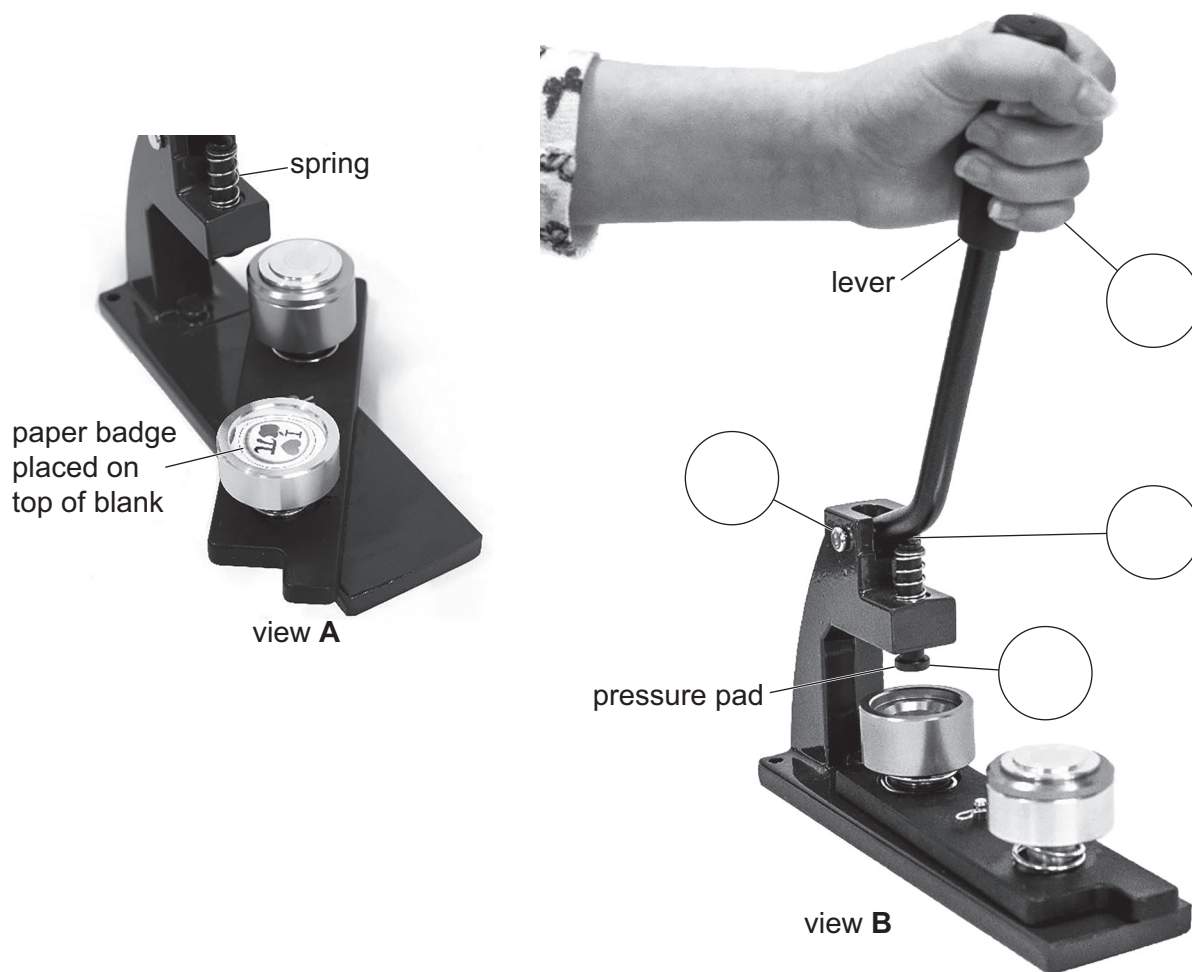

Fig. 11.1
- 11 Fig. 11.1 shows two views of a badge-making machine which is used to press a clear plastic sheet over a paper badge and badge blank.